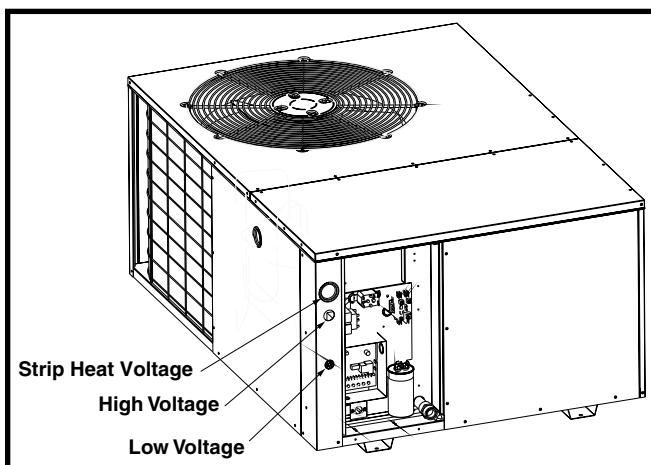

Figure 7. Power Entry
- Provide power supply for the unit in accordance with the unit wiring diagram, and the unit rating plate. Connect the line-voltage leads to the terminals on the contactor inside the control compartment. Extend leads through power wiring hole. See Figure 7. Connect **L1** & **L2** directly to the contactor.